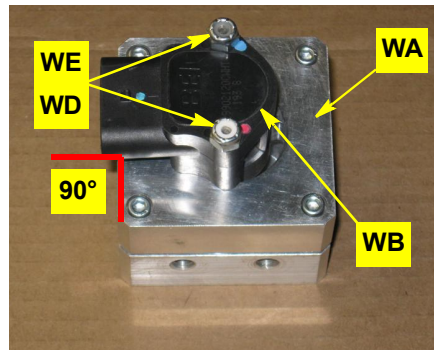

Figure 1a: Mounted WAS wire connector
- a. Using hardware **WD** (screw) and **WE** (nut), attach the WAS wire connector (sensor) **WB** to the WAS housing **WA**. Install the bolts up through the bottom of the housing. The WAS wire connector **WB** can be mounted 90° to any of the WAS housing **WA** sides (Figure 1a).